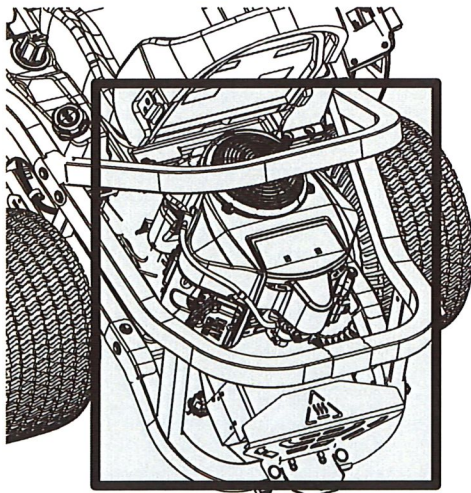

Figure 21
- Keep both sides of transmission cooling slots, exhaust manifold, around fuses, all wiring and harnesses, muffler pipe, muffler shield, engine intake screens and cooling fins, etc., clear of grass clippings and leaves. See Figure 21.